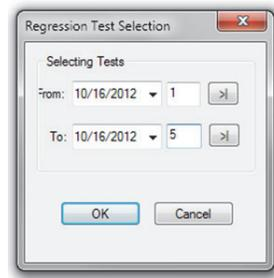

Figure 8-9 The Regression Test Selection dialog box
4. Click **Import** to display the **Regression Test Selection** dialog box (see Figure 8-9 on page 112).